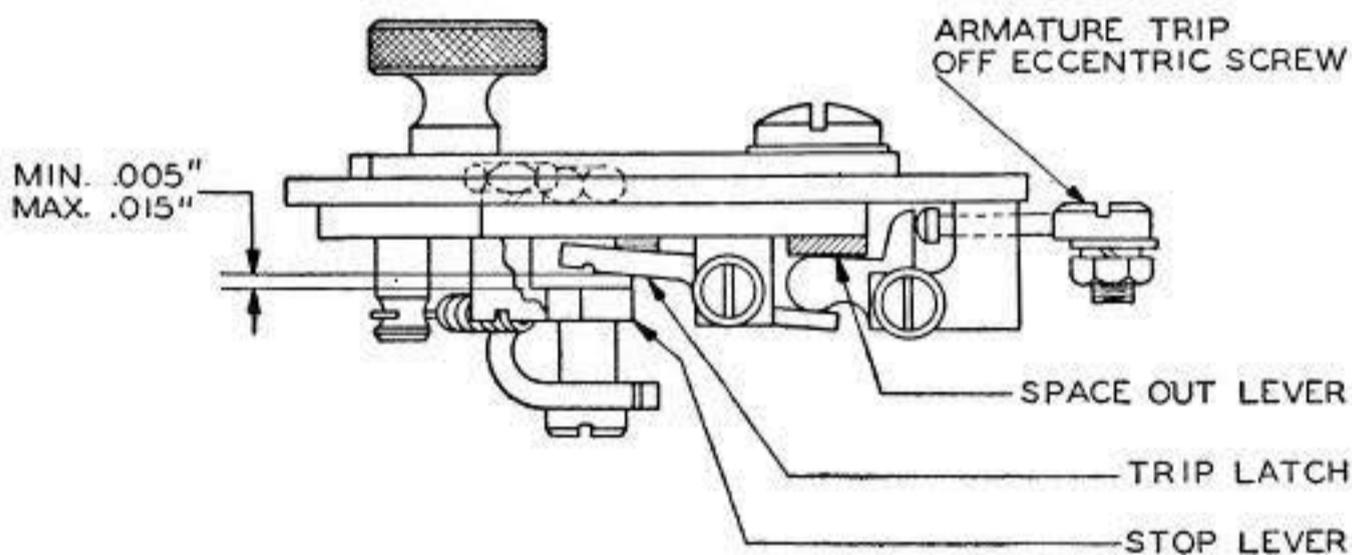

Fig. 11
2.28 The **space-out lever** should not bind and should hold the triplatch so that it clears the stoplever as indicated in Fig. 11 when the space-out lever is in its down position. **Fig. 11**